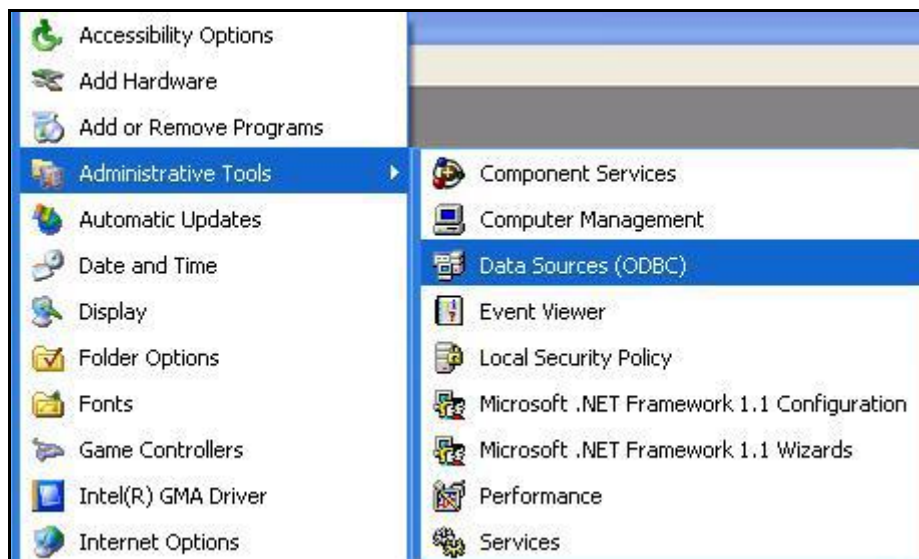

Figure 51 - ODBC Data Source Administration Screen Access Path
1. Select **Control Panel -> Administrative Tools -> Data Sources (ODBC)** from the **Start** button, or select the configuration tool right from the MatrikonOPC Client for ODBC by clicking **Configure** on the **Database Connection Configuration Window** as shown in Figure 51.